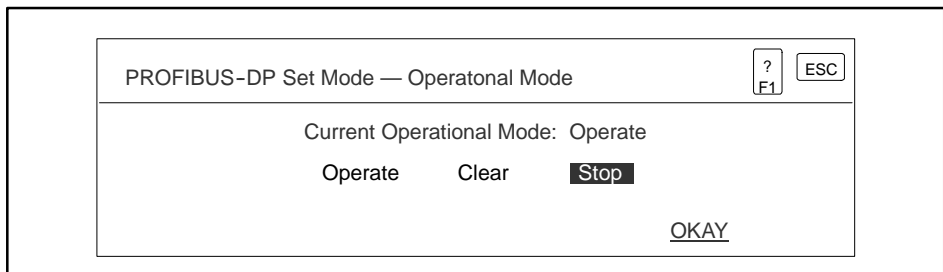

Figure 9-22 Setting the Operational Mode
4. Select **Operational Mode**, and press **Enter** twice. The PROFIBUS-DP Set Mode — Operational Mode dialog box appears (Figure 9-22).